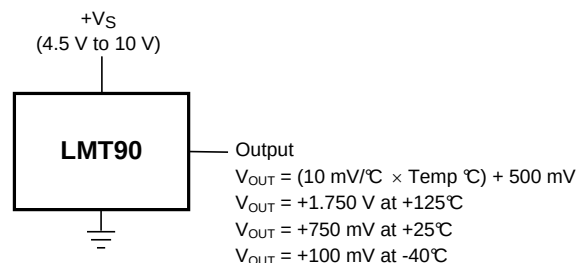

图 2. 全范围摄氏温度传感器（**-40°C** 至 **+125°C**）
Unless otherwise noted, these specifications apply for $V_S = +5\text{ V}_{DC}$ and $I_{LOAD} = +0.5\text{ }\mu\text{A}$, in the circuit of Figure 2. **Boldface limits apply for the specified $T_A = T_J = T_{MIN}$ to T_{MAX}** ; all other limits $T_A = T_J = +25^\circ\text{C}$, unless otherwise noted.
- (1) Limits are specific to TI's AOQL (Average Outgoing Quality Level).
- (2) Accuracy is defined as the error between the output voltage and $10\text{ mV}/^\circ\text{C}$ times the device's case temperature plus 500 mV , at specified conditions of voltage, current, and temperature (expressed in $^\circ\text{C}$).
- (3) Nonlinearity is defined as the deviation of the output-voltage-versus-temperature curve from the best-fit straight line, over the device's rated temperature range.
- (4) Regulation is measured at constant junction temperature, using pulse testing with a low duty cycle. Changes in output due to heating effects can be computed by multiplying the internal dissipation by the thermal resistance.
- (5) Quiescent current is defined in the circuit of Figure 2.
- (6) For best long-term stability, any precision circuit will give best results if the unit is aged at a warm temperature, and/or temperature cycled for at least 46 hours before long-term life test begins. This is especially true when a small (Surface-Mount) part is wave-soldered; allow time for stress relaxation to occur. The majority of the drift will occur in the first 1000 hours at elevated temperatures. The drift after 1000 hours will not continue at the first 1000 hour rate.